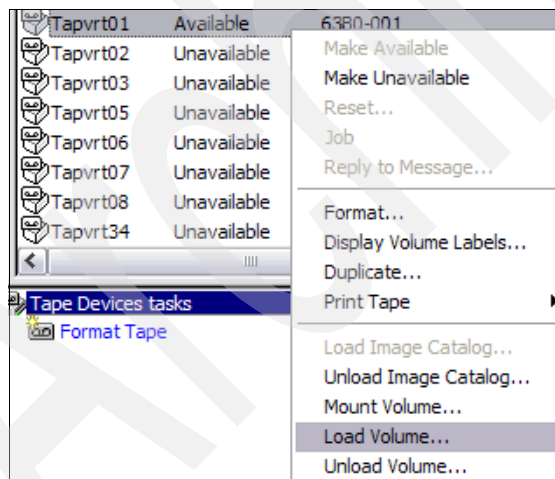

Figure 8-32 Load volume
4. Verify whether there are volumes with loaded status (by right-clicking the virtual tape drive and selecting Load Volume as shown in Figure 8-32.)